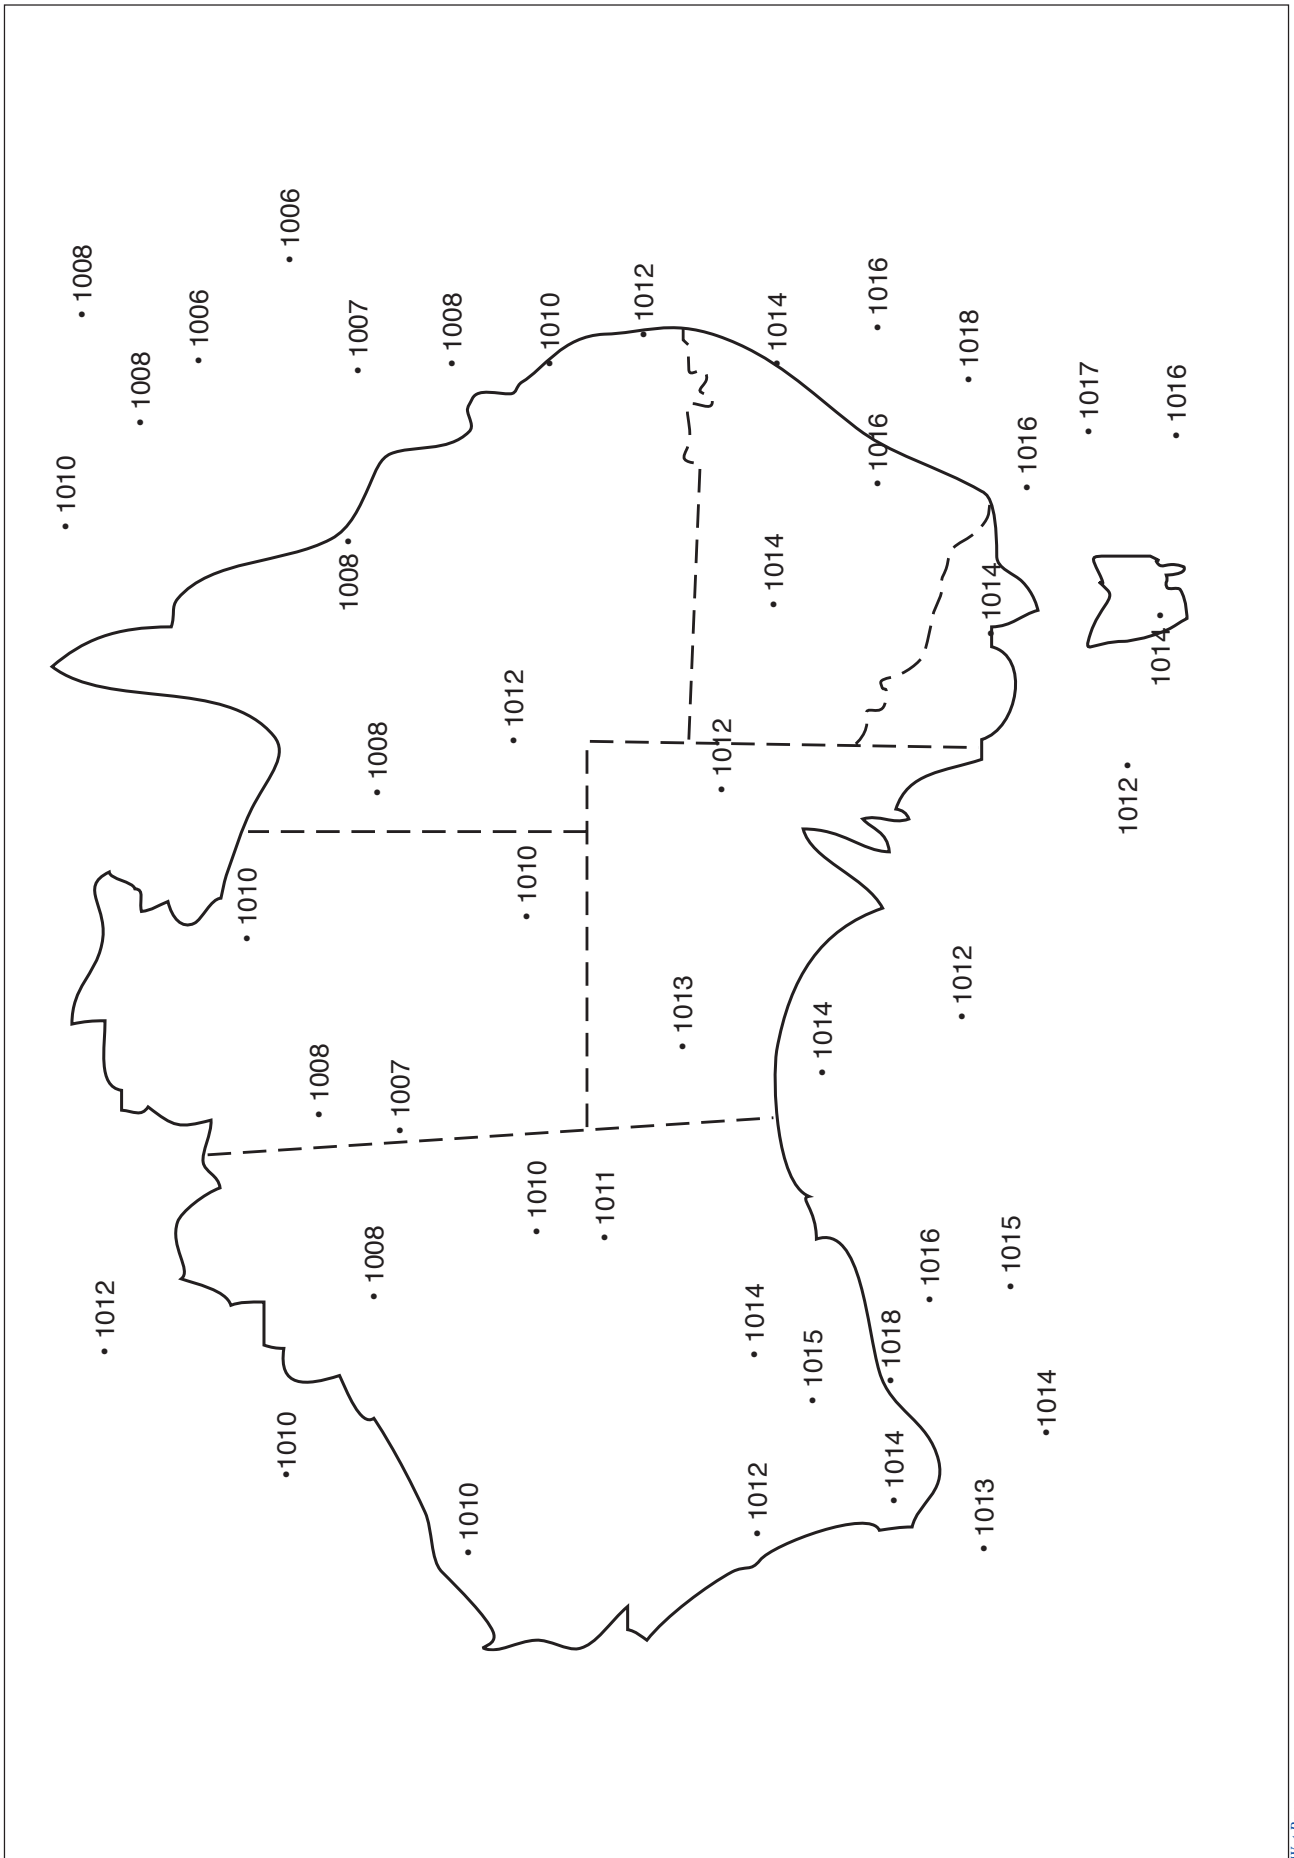

Figure 83.1 Students may make one copy of this page to help them with their assignment.
1. Figure 83.1 shows the atmospheric pressures measured at different locations around Australia. Attempt to connect points that have the same pressure. These lines are called isobars.